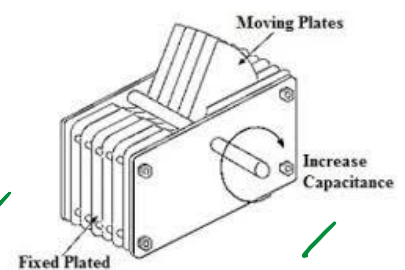

Figure 2
2. Figure 2 shows a circuit containing capacitors in series/parallel to a d.c. voltage source.